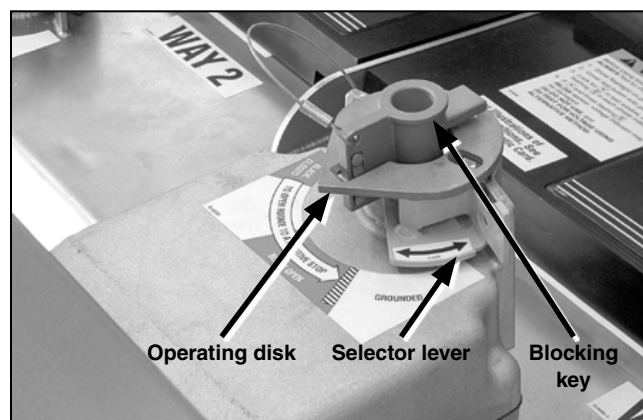
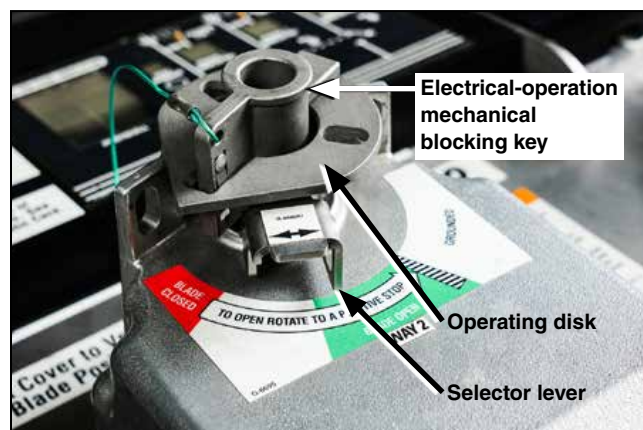

Figure 41. The OPEN position indication on the motor operator.
Figure 42. The CLOSE indication on motor control board matches motor operator position.
- STEP 2.** The motor operator controls indicate the position of the motor operators and mechanism operating shafts via LEDs on the front panel assembly. See Figure 41 and Figure 42. If equipped with a 6800 Series Automatic Switch Control, the Vista switchgear rack only shows the **Ground** status. The **Open** and **Close** status and the operating controls are on the 6800 switch control. Automatic operation controls are on the switch control unit. See Figure 40.
See Figure 41 and Figure 42 on page 26. Verify the motor operator moves to the desired position among the four noted below and the control board LEDs also indicate the proper position (There is an electrical interface in the controls that will not allow the user to move to/from the **Close** position directly from/to the **Ground** position.):